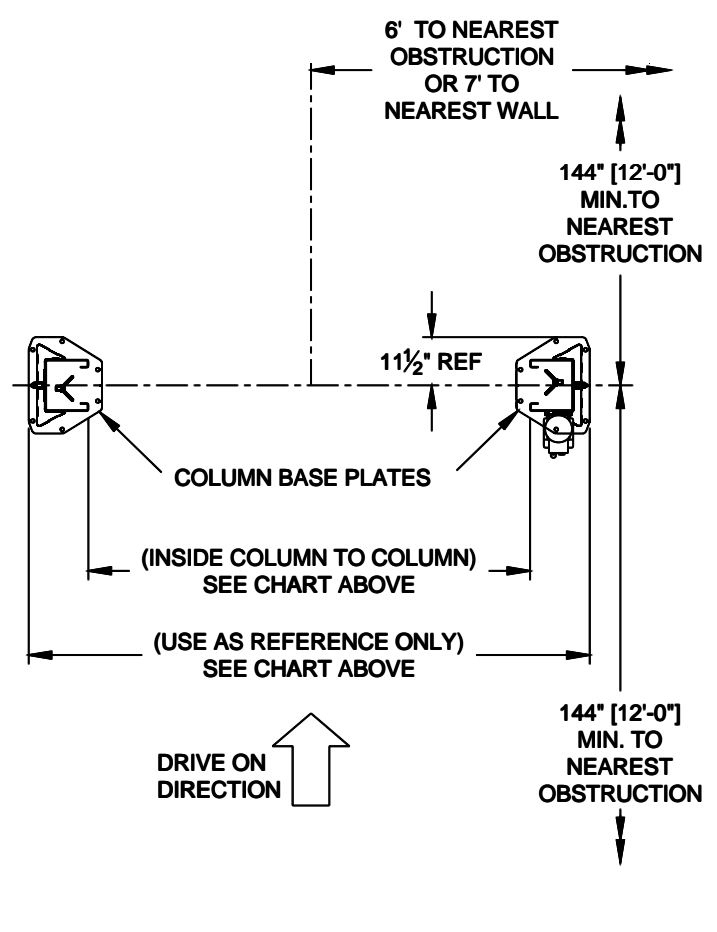

Fig1b - Service Bay Layout
- Layout the service bay according to the architect's plans or owners instructions (see **Fig 1b**). **Failure to install in this orientation can result in personal and property damage.** Be certain that the proper conditions exist, see page 3.